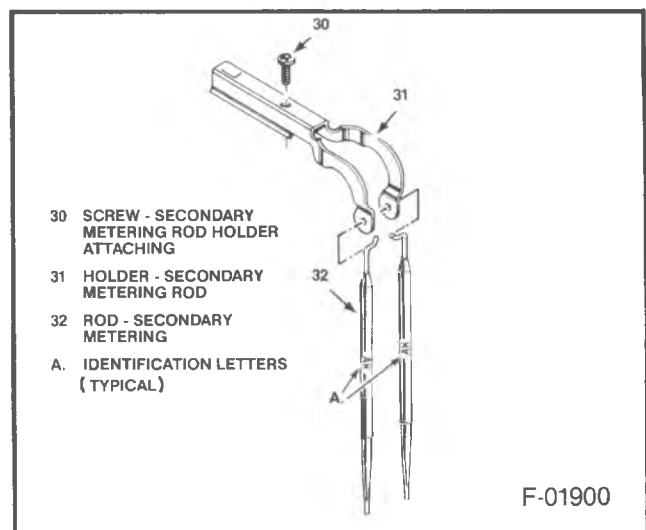

Figure 13 -- Secondary Metering Rods and Holder
- ↔ Remove or Disconnect (Figure 13)
1. Secondary metering rod holder attaching screw (30).
2. Metering rod holder (31), and metering rods (32).